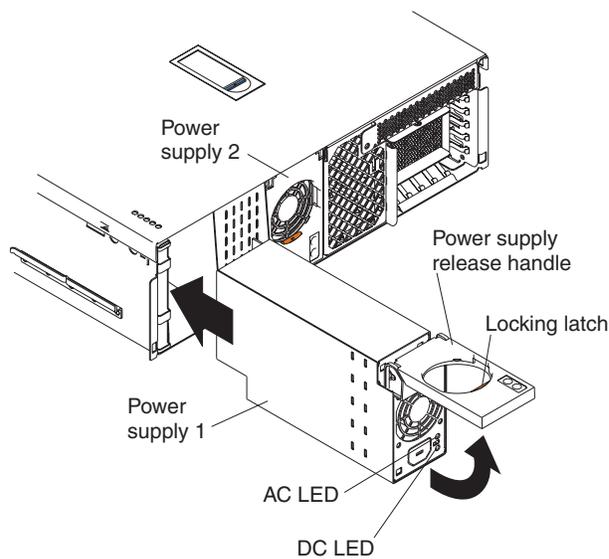

Figure 22. Installing a hot-swap power supply
3. Remove the appropriate power-supply filler panel (see Figure 22) by inserting a finger into the hole and pulling the panel forward. The panel pivots at the top.